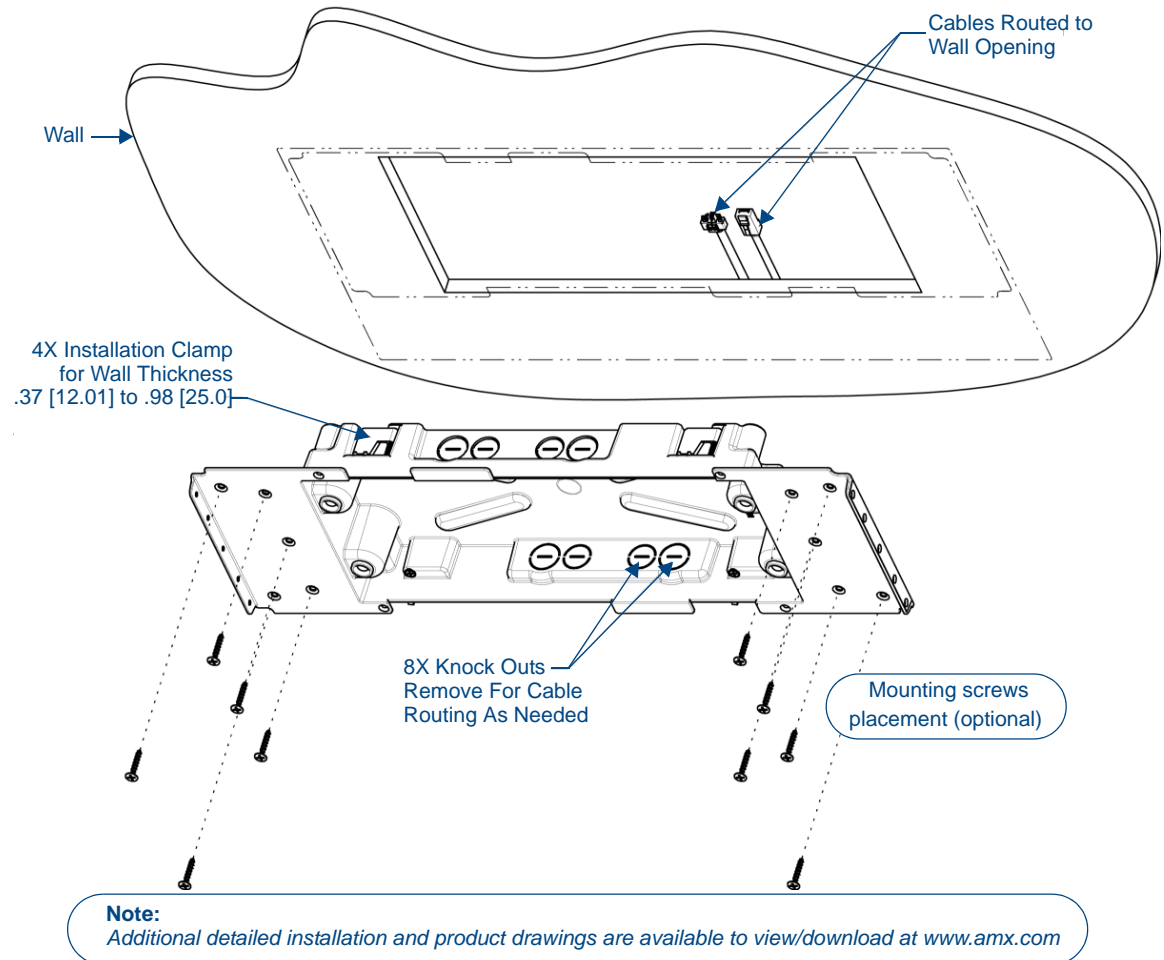

FIG. 31 MXD-1900L-PAN Backbox installation (Landscape)
3. Thread the incoming power and Ethernet wiring from their terminal locations through the surface opening (FIG. 31).
Note that FIG. 31 shows the MXD-1900L-PAN, but the illustration applies equally to the MXD-2000XL-PAN.
Also note that FIG. 31 shows a landscape panel but the installation of a portrait panel is essentially the same, other than the vertical orientation.
- For additional strength, #4 mounting screws (not included) may be secured through circular holes located at the left and right sides of the MXD-2000XL-PAN (see FIG. 31). In order to prevent damage to the touch panel, make sure that these are flush with the Backbox.